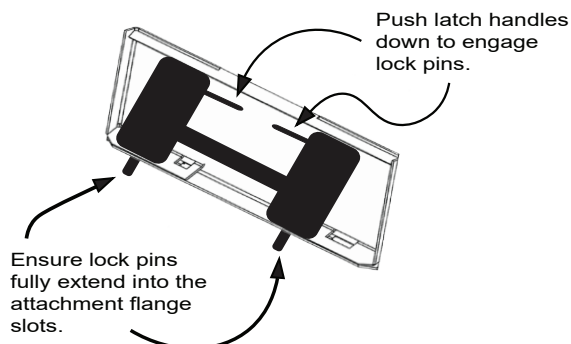

FIGURE 4.2B QUICK ATTACH COUPLER LOCKED TO ATTACHMENT PLATE
4. Activate your skid steer's lever lock switch to engage and lock the pins into the flange slots of the attachment plate. If your skid steer does not have this switch, push the latch handles down until you can see the lock pins extend into the attachment flange as shown in Figure 4.2b below.